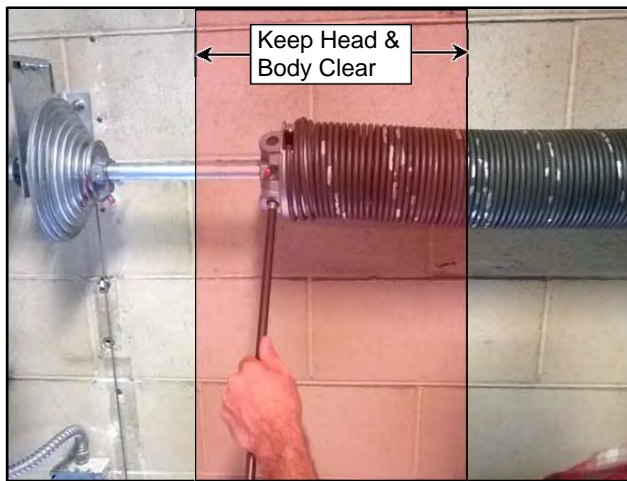

Figure 35
2. Assume the cone will slip or explode as you wind and unwind the spring. Keep your head & body out of the path of the winding cone. Keep your hands away from the cones so that if and/or when the winding bar slips out of the cone and your hand jerks up, the cone doesn't rip your flesh or wrap your clothes and body parts into the spring. (See Figure 35)